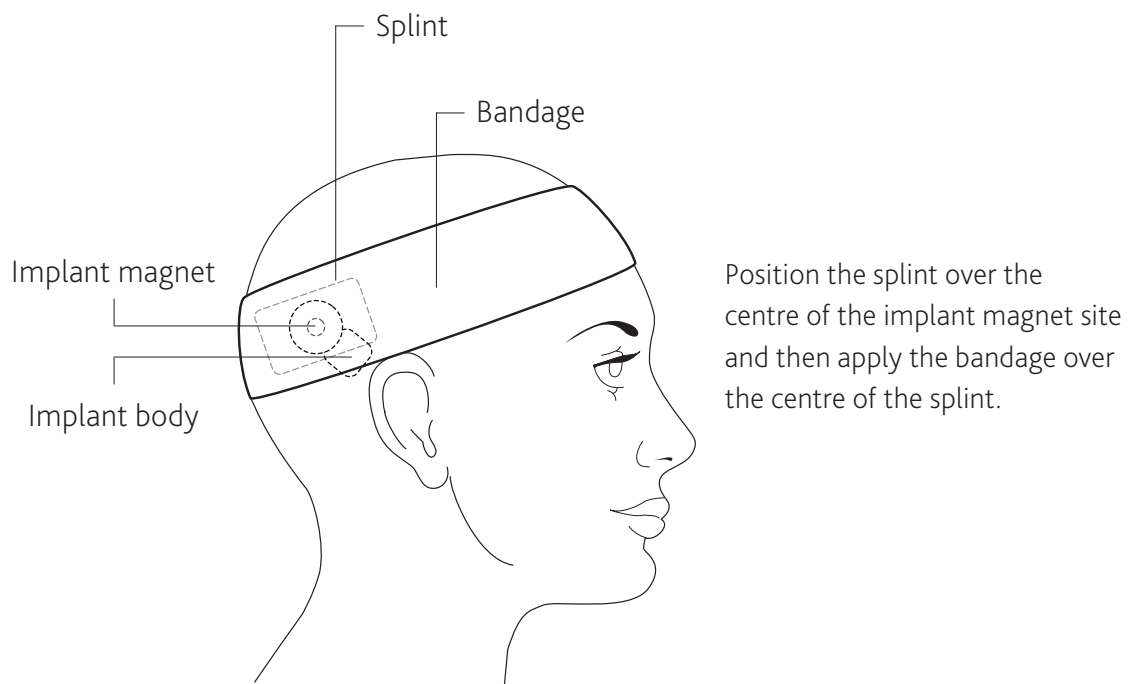

Figure 4: Fitting the MRI Kit splint and compression bandage
4. Use the elasticised compression bandage from the MRI Kit and ensure the centre line of the bandage is over the implant magnet site and the splint is fully covered. See *Figure 4* below.